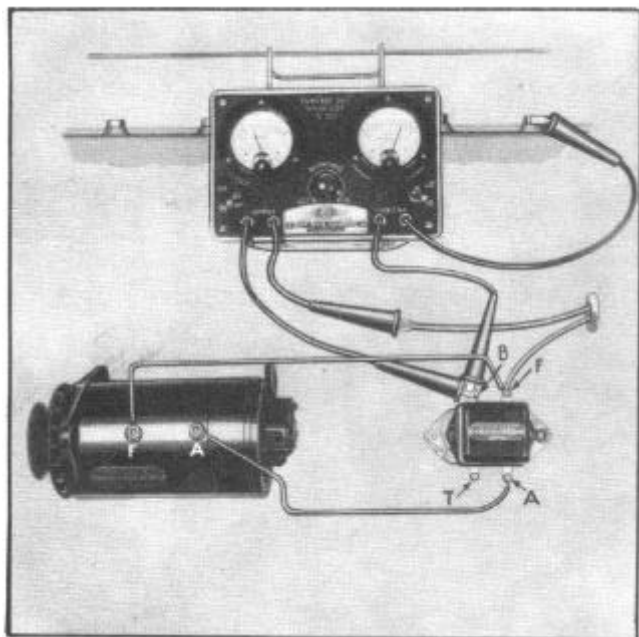

Figure 7--Checking Voltage Regulator
1. Disconnect "BAT" lead at "B" terminal on voltage regulator, see Figure 7.